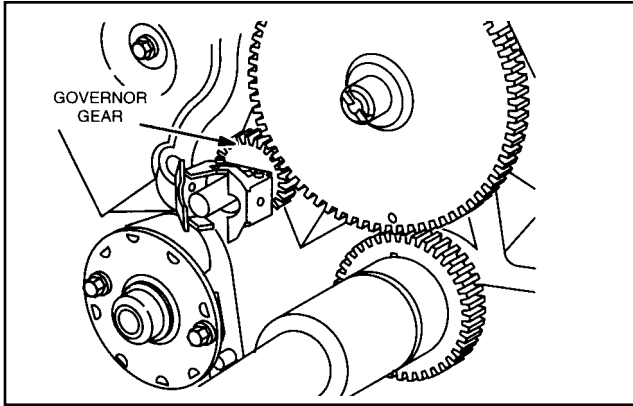

Fig. 14 - Install Governor Gear
1. Lubricate thrust washer, governor gear and governor cup with engine oil and assemble to shaft, Fig. 14.